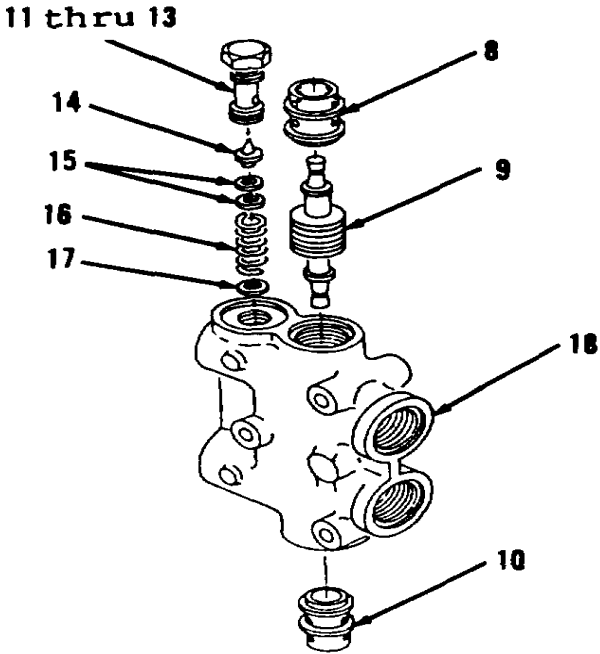

Figure 10-119.
- 6. Using alignment punch and hammer, remove seat (8) and piston (9) from body (18, Figure 10-119).
- 7. Using alignment punch and hammer, remove seat (10) from body (18).
- 8. Remove items 11 thru 13 as an assembly.
- 3. Install washers (17), spring (16), shim(s) (15) and valve (14) in body (18, Figure 10-119). Use washers (17) and shim(s) (15) as required to obtain relief valve pressure setting of 2000 psi at flow rate of 2. 5 gallons per minute. Refer to chart.
- 4. Install items 13 thru 11 as an assembly.
- 5. Using dry ice or freezer, reduce temperature of seat (10) and install using alignment punch and hammer until seated against counterbore in body (18).
- 6. Position piston (9) in seat (10) in body (18).
- 7. Using dry ice or freezer, reduce temperature of seat (8) and install using alignment punch and hammer until seated against counterbore in body (18). Check for full movement of piston (9) through seats (10 and 8).